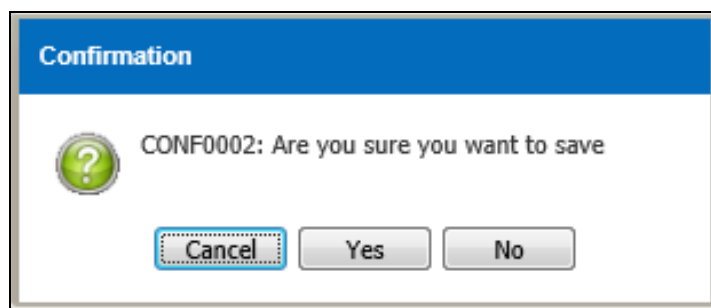

Figure 3.10.1-3 Confirmation Message
- Confirmation message as shown in Figure 3.10.1-3 will be displayed after user save the record
- Record will save when user click on the  button as shown in Figure 3.10.1-4